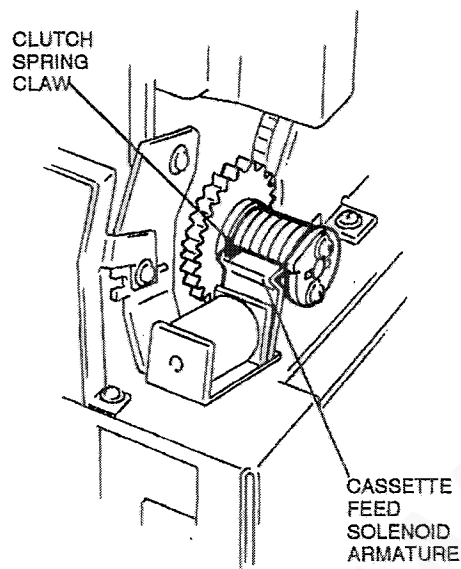

Figure 1. Aligning claw to armature
- (Figure 1) Turn the cassette feed roller, until the claw of the clutch spring touches the armature of the cassette feed solenoid.